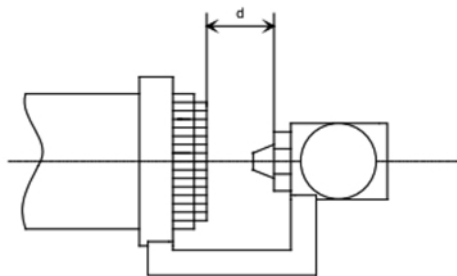

Figure A.1: Air Adjustment Detail
- Adjust the air ring according to the type of gas. Refer to Figure A.1.